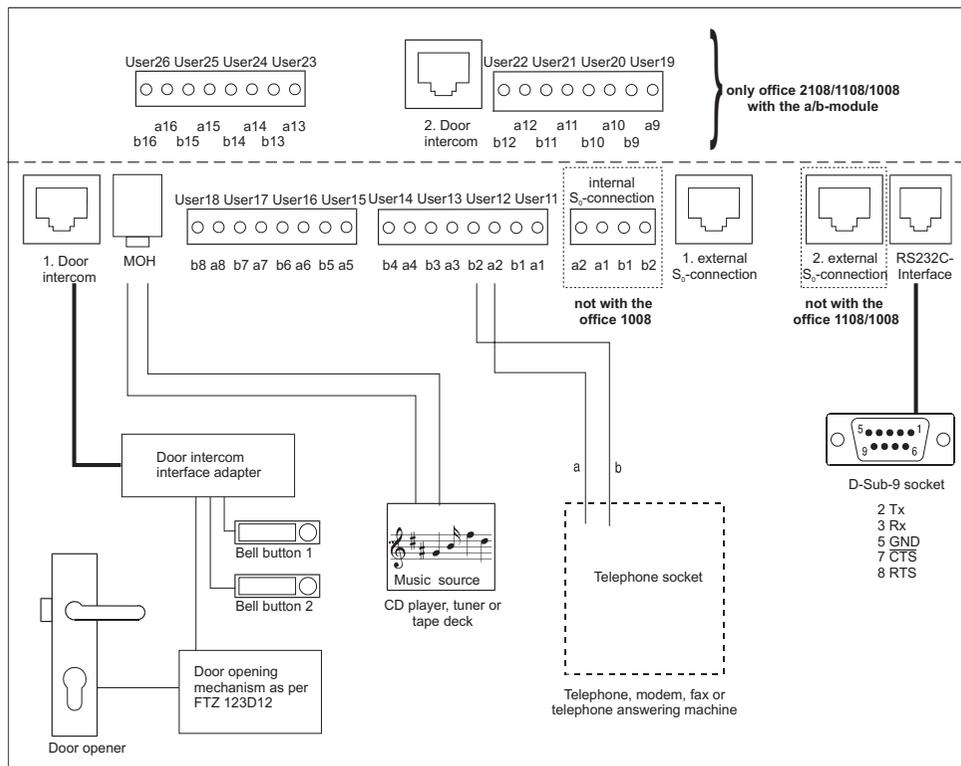

Fig. 5-1 Connecting the lines to the office 2108/1108/1008
Only connect the lines and cables on the telephone unit when the 230 V power cable has been disconnected and when there is no link to the public telephone network. On the following pages (Fig 5-1 to 5-3) you will find information on the terminal markings of the junction boxes that can be used and the assignment of the installation cable wires, as well as installation diagrams for the ISDN Network Terminator connection with ISDN junction boxes or Universal junction boxes.
- For telephones with adjustable flash (R) buttons, set the flash time at 80 ms. (see 5.9, "Setting the correct flash time ...")
- Insert the Western (RJ-45) plug of the exchange cable with one end in the unit's Western socket (see Fig 5-1) and the other end in the telecommunication socket (network termination) or telephone company Network Terminator (NT) (see 5.4 point 6).